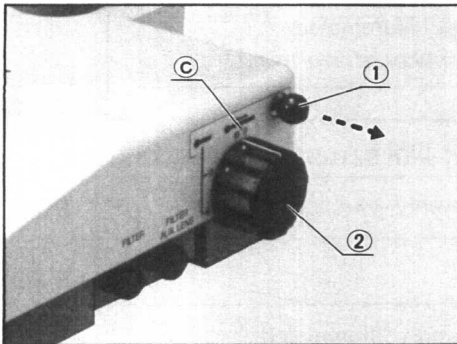

Fig. 22
- ① Align the illuminator selector dial ① to the red-green dots at position (c) regardless of the zoom magnification. (Fig. 22)
- ② Slowly pull the illuminator selector knob ② out, until optimum illumination is obtained for observation.